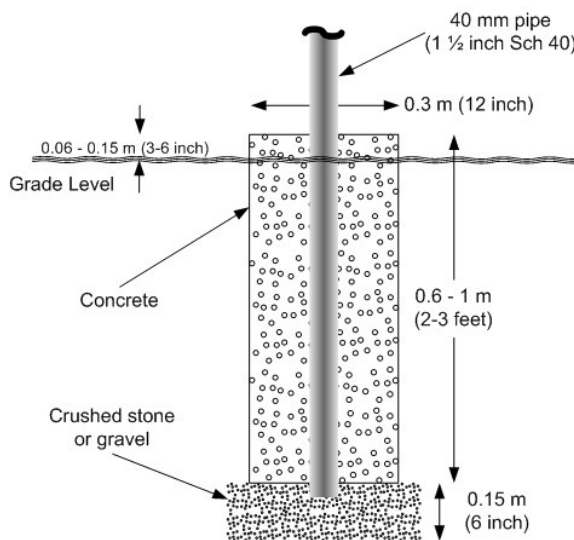

Figure 2.1.2-1 Site Preparation – Concrete Footer
- **Support Structure** - If the sensor is to be installed as a stand-alone instrument, prepare a concrete footer as shown in Figure 2.1.2-1. It is recommended that depth of the concrete footer is below the frost line to avoid heaving. When preparing for the concrete footer also plan for earth grounding, power wiring, and signal wiring.
- The Sentry™ may also be installed on an existing structure such as a triangular tower using a boom arm structure. The boom arm should extend at least 1 m (3 ft) out from the side of the tower to reduce water or snow dripping from the upper portions of the tower into the sensing volume of the sensor. The boom arm may be made from 1 inch or 1-1/2 inch Schedule 40 pipe as shown in Figure 2.1.2-2. *Check your sensor model number - if it ends in "P", your sensor is equipped with a 1" nominal pipe flange and you must use 1-inch pipe for the mounting arm.* Otherwise, use 1-1/2 pipe. The boom arm structure should be attached to the side of the triangular tower with U-bolts or similar hardware. When selecting which side of the tower to use, make certain that the sensor sample volume is facing away from the tower and not over the boom arm while still aligning the receiver optics facing in a northerly direction or parallel with the roadway.